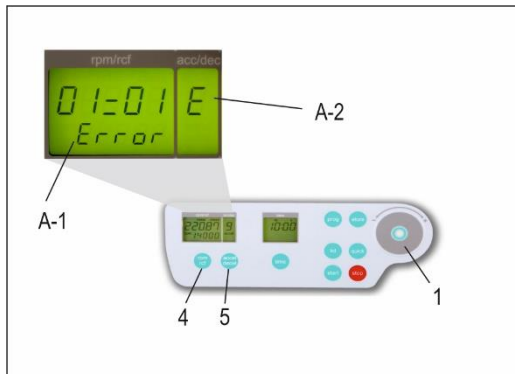

Figure 12
The list of the last 99 error messages can be reviewed by pressing the key, "rpm/rcf" (4) and scroll through, with the control field (1) (see Figure 12). The respective error codes appear in the display, "rpm/rcf" (A-1). Please refer to "Table 6: Error Messages", (see APPENDIX P. VI).